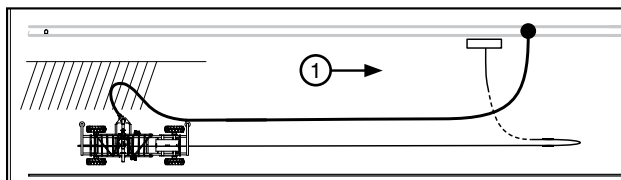

Figure 50-3 1. Direction of Travel
- (b) As the side inlet pivots the hose is pushed out away from the cart and guided by either the side walls of the cart tires or the optional hose bumpers. See Figure 50-3.